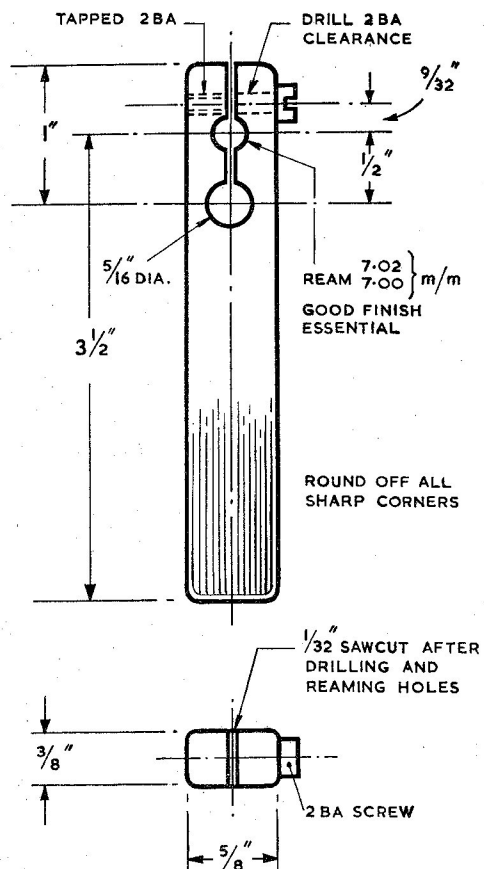

Fig. 3. Tool for gripping armature shaft
12. Test the shaft for eccentricity (which must not exceed ± 0.001 in.), remove and examine brushes and remove the fan (taking care not to lose its small driving peg), unscrew the motor through-bolts, but do not remove the brush-holder clamping bolts. Then separate the commutator end frame from the field yoke, leaving the yoke spigoted into the drive end frame. Unscrew the nut on the drive end of the armature shaft, either holding the armature by hand or by gripping the commutator end bearing seating with the special tool (fig. 3). Remove the nut and the slinger ring and extract the armature. Unscrew the retaining plates securing the drive end bearing and extract both the drive end and the commutator end bearing. These bearings may be extracted by gently tapping the inner race, using a soft brass or an aluminium drift.